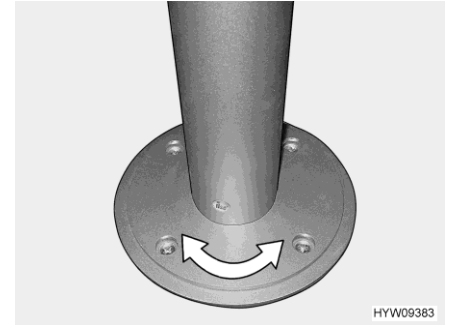

Fig. 44 Pillar table leg (rotatable)
- Rotate table top to the desired position. In order to do this, you need a little effort, because the table top rotates against the friction resistance on the pillar table leg (Fig. 44).